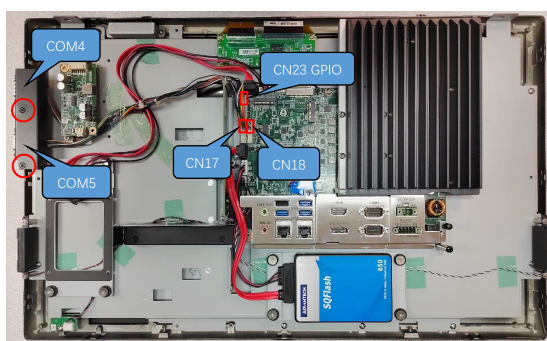
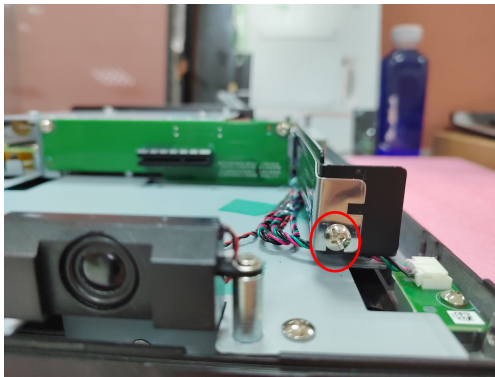

Figure 2.22
Figure 2.23
- Replace the VESA mount plate. Take out two plugs located at the top of the rear cover (see Fig. 2.22) for the antenna connectors. Then replace the rear cover and secure in place using screws. Finally, attach the antennas to the two antenna connectors located at the top of the panel (see Fig. 2.23).